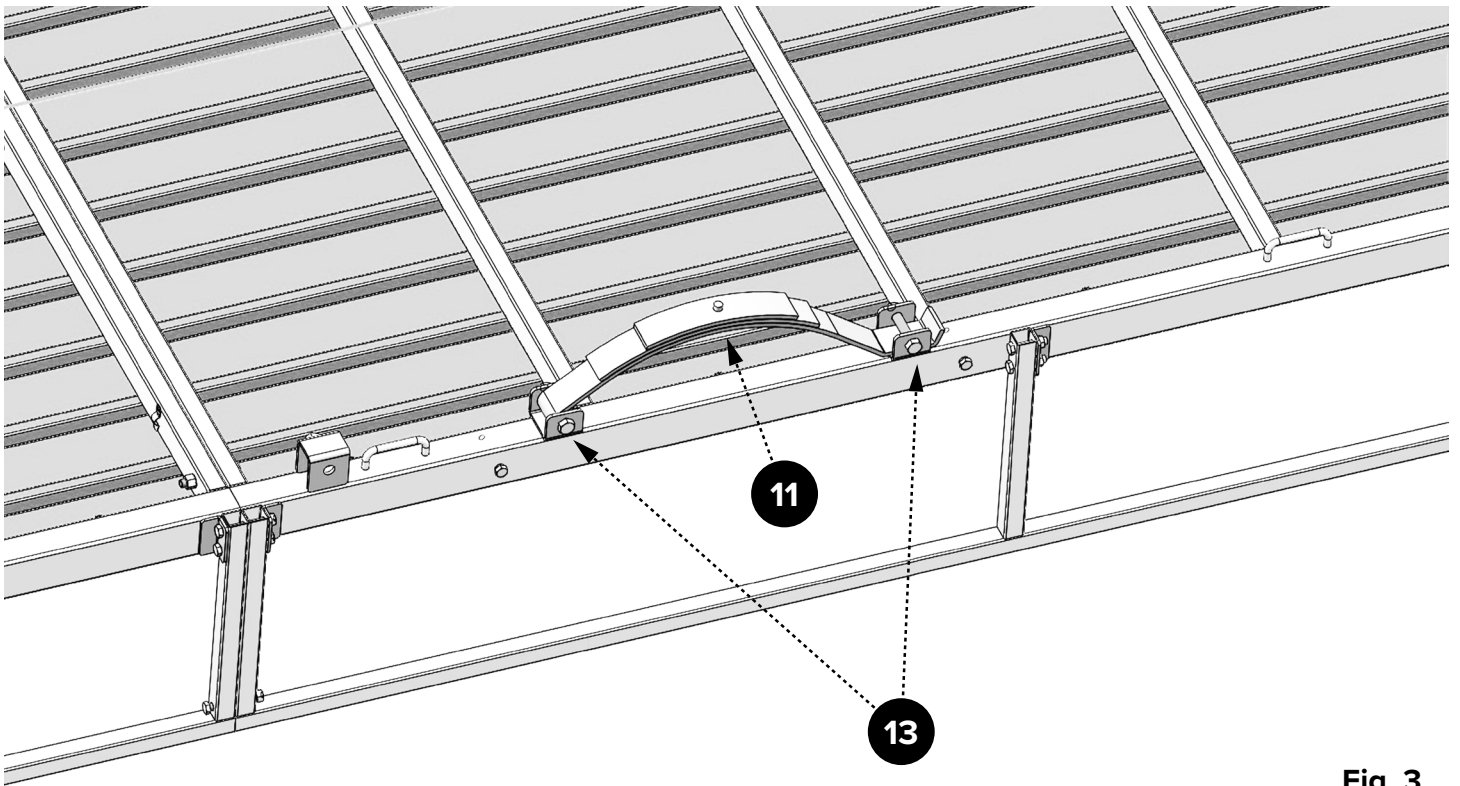

Fig. 3
1. Place 3-leaf slipper springs (11) into the spring seats with the eyes forward as shown (Fig. 3).
2. Insert M14 x 80 (13) bolts facing the inside of the frame (Fig. 3).